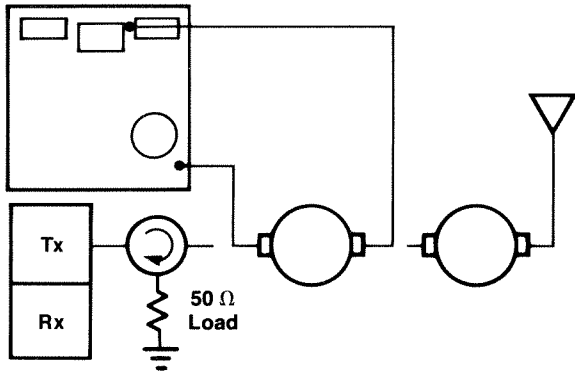

Figure 2
- ⑦ Adjust the SIG GEN FINE control to set the trace at the top of the CRT to compensate for the insertion loss of the coax test cables.
- ⑧ Connect SIG GEN OUT to Tx side of cavities, (do not tune cavities through an isolator.) Disconnect cable between the cavities and connect the ANT IN to the cavity that the monitor is connected to (See Figure 2).
- ⑨ Tune each cavity independently and then together. (See Figures 2, 3, 4) Reduce sweep width to 100 kHz/Div. for better resolution. (If double peaking occurs and cavities will not tune on each other, suspect wrong cable length between cavities).